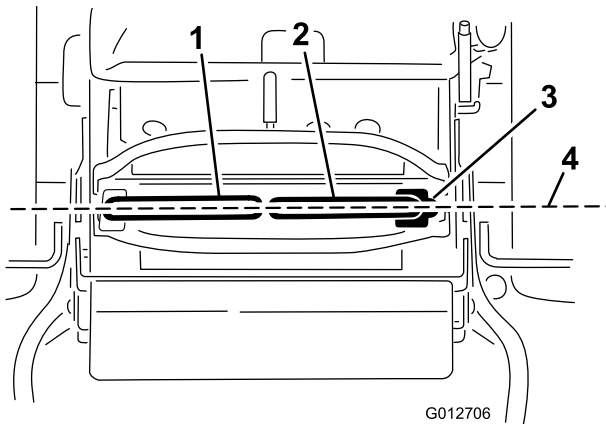

Figure 79
Important: Ensure the tracking of the mower is correct after adjusting the motion-control levers. Adjusting the tracking and aligning the motion-control levers front to back is the same procedure (Figure 79).
1. After the horizontal alignment is finished, check the front to back alignment by slightly pushing the control levers forward to take up any slack in the linkage for the control levers (Figure 79).